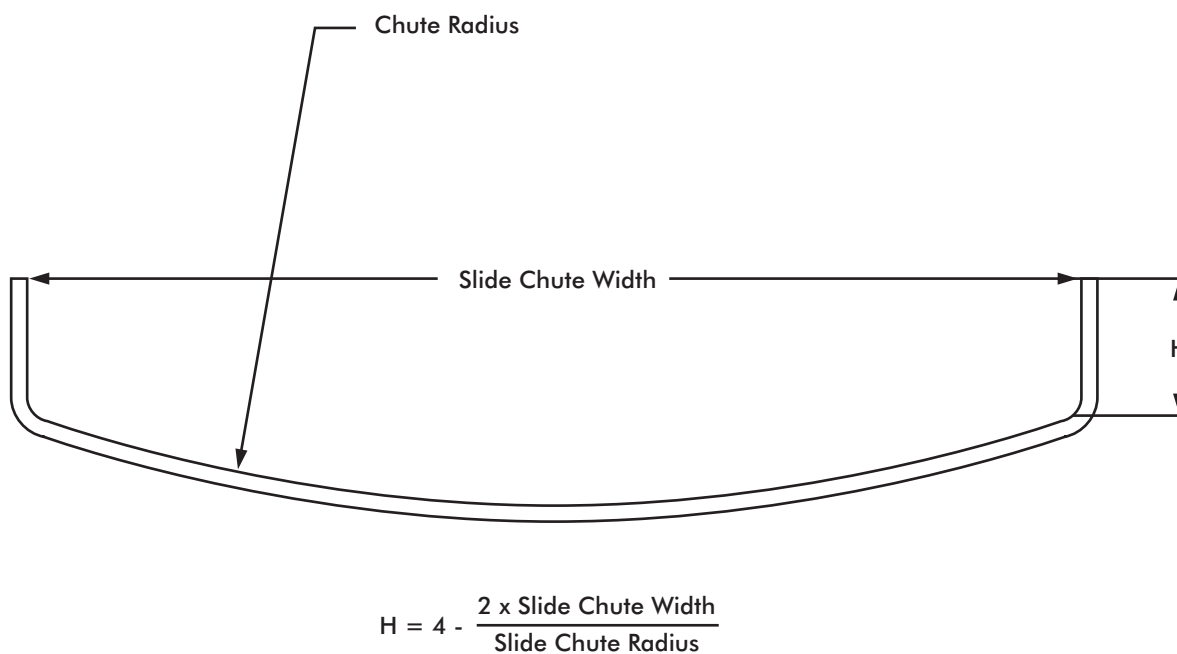

Figure 19. Formula for Minimum Vertical Side Height for Slide with Curved Chute
- B. For any age group, the vertical height of the sides is no less than 4 inches minus two times the width of the slide chute divided by the radius of the slide chute curvature (Figure 19).